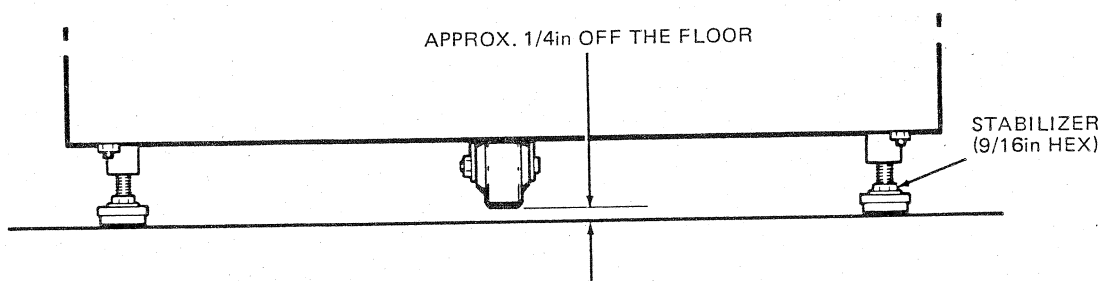

Figure 2-4. Front Locking Stabilizer Adjustment
3. Use a 9/16 inch wrench to lower the two locking stabilizers in the front of the centrifuge until they lightly contact the floor. Rotate each stabilizer an additional four turns. This will raise the center caster about 6 mm (1/4 in) off the floor. Check that the centrifuge does not rock on its four support points, the two front stabilizers and the two rear casters (see figure 2-4).